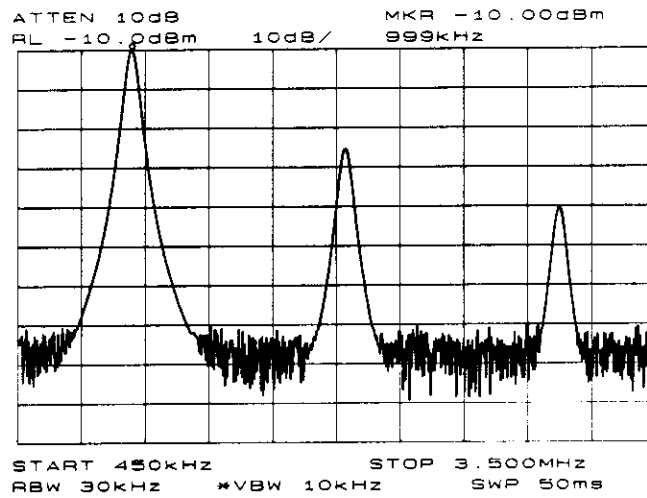
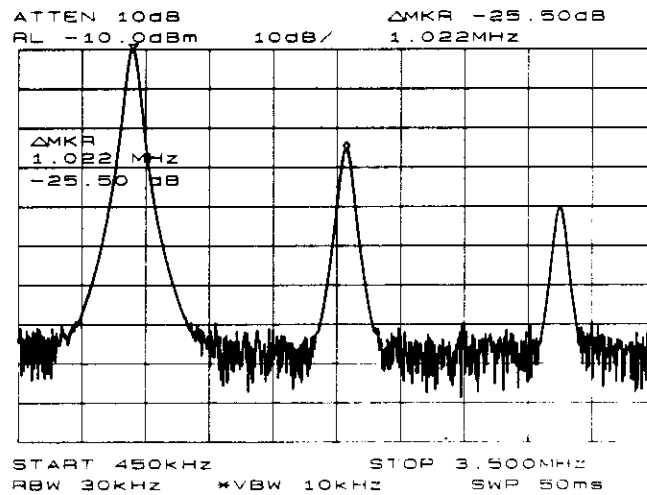
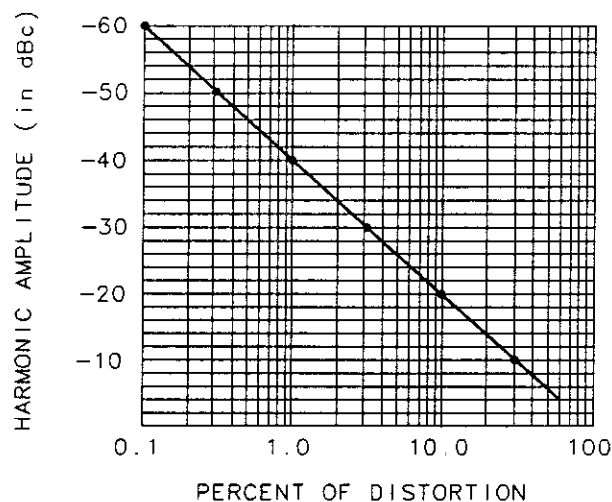
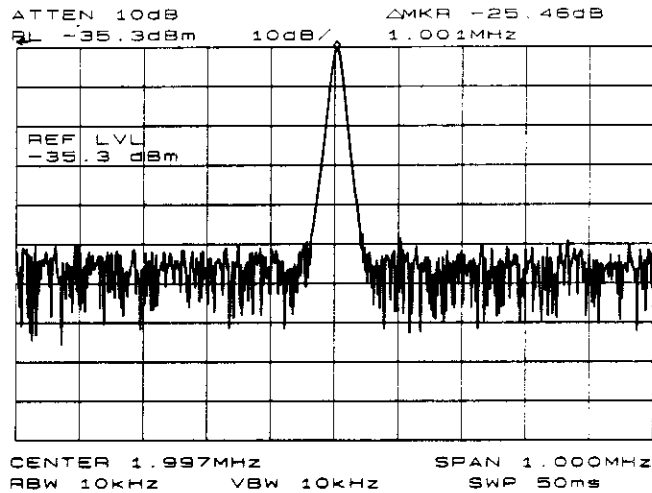

Figure 3-2. Peak of signal is positioned at reference level for maximum accuracy.
Figure 3-3. Harmonic distortion measured in dBc. Marker threshold set to -70 dB.
Figure 3-4. Percentage of Distortion vs. Harmonic Amplitude
Figure 3-6. Second harmonic displayed in dBc.
2. For greatest measurement accuracy, raise the peak of the fundamental to the reference level by pressing **PEAK SEARCH**, **MKR ->**, and then **MARKER -> REF LVL**. This is shown in Figure 3-2. To activate a second marker, press **PEAK SEARCH**, **MARKER DELTA**, and **NEXT PK RIGHT**. This places the anchor marker on the fundamental, and a second marker on the peak of the second harmonic as shown in Figure 3-3. The difference in amplitude between the fundamental and second harmonic shown in the figure is approximately -25 dB, or 5.5% harmonic distortion (see Figure 3-4). To measure the third harmonic, press **NEXT PK RIGHT** again. Continue reading amplitudes and comparing them to Figure 3-4 for each additional harmonic you wish to measure. According to the definition of a peak, the next-peak routines find the corresponding peak when using **PEAK EXCURSN**.
- To measure the second harmonic, press **(MKR)**, **(MARKER DELTA)**, **(FREQUENCY)**, and the step up **(▲)** key. This step retunes the spectrum analyzer center frequency to the second harmonic. Adjust the harmonic to the reference level. (Note that the **(MARKER -> REF LVL)** function is not available in marker-delta mode.) This displays the amplitude of the second harmonic as shown in Figure 3-6. The difference between the second harmonic and the fundamental can be converted to a percentage of distortion using Figure 3-4. Again, units can be changed to volts in order to read the voltage ratio of the two signals.